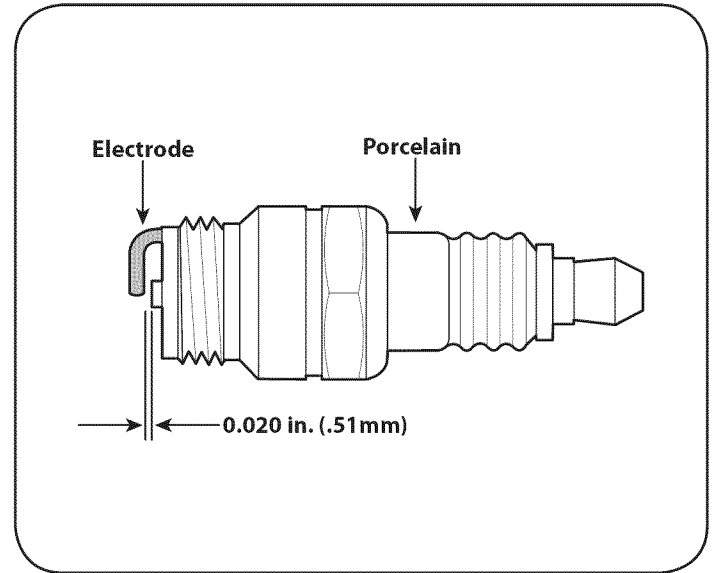

Figure 16
3. Check the gap with a wire gauge. See Figure 16. Spark plug gap should be 0.020 in (0.51 mm). If necessary, reset the gap.